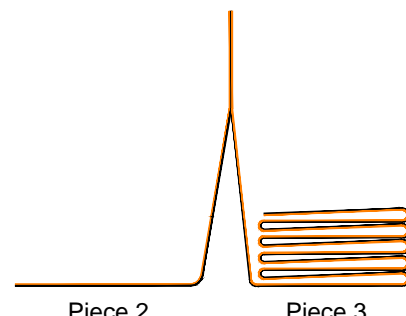

FIGURE 5
5. ONCE PIECE 3 IS UNROLLED LIFT END OF PIECE 2 AND SEW TO FLIP FOLD OF PIECE 3, BLACK TO BLACK, (FIGURE 5)